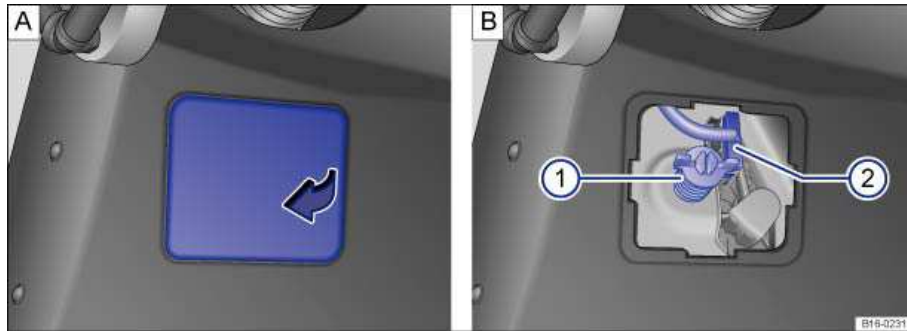

Fig. 177 In the side of luggage compartment: A: Open cover of the rear side panel. B: Removing the taillight assembly.
3.	Open the cover of the rear trim panel → fig. 177 A .
4.	Unscrew the taillight fastening screws B (1) and carefully remove the taillight assembly from the vehicle body. While doing this, detach the connector plug B (2) from the bulb holder.
9.	Hold the rear light assembly with one hand in the installation position and with the other hand, tighten the fastening screw → fig. 177 B (1) .